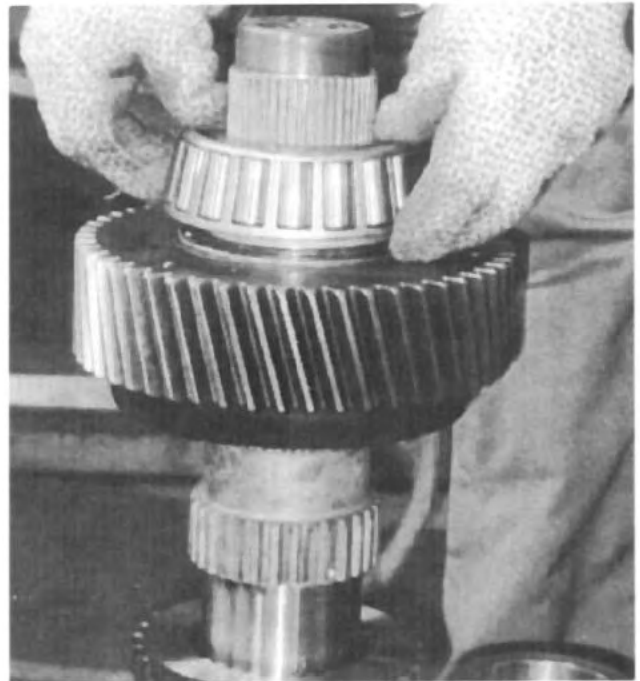

Fig. 48
- After the gear float has been set correctly, remove special tool # 866 749 and install the rear output shaft spacer, bearing cone, special tool # 866 751 and lock nut. See Fig. 48.